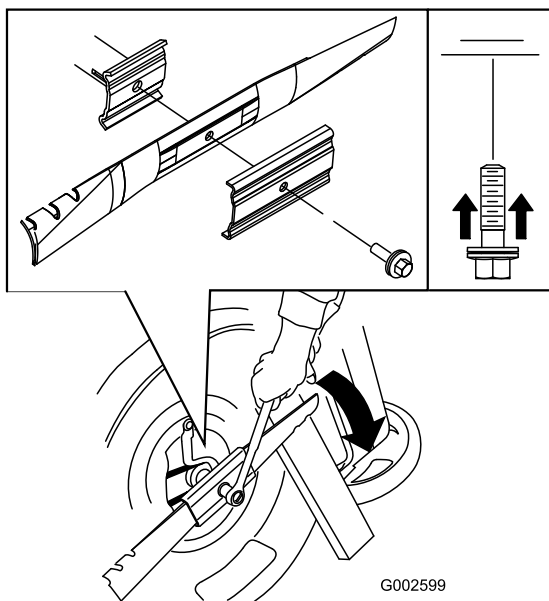

Figure 24
5. Install the new blade (turn the blade bolt clockwise) and all mounting hardware (Figure 24).